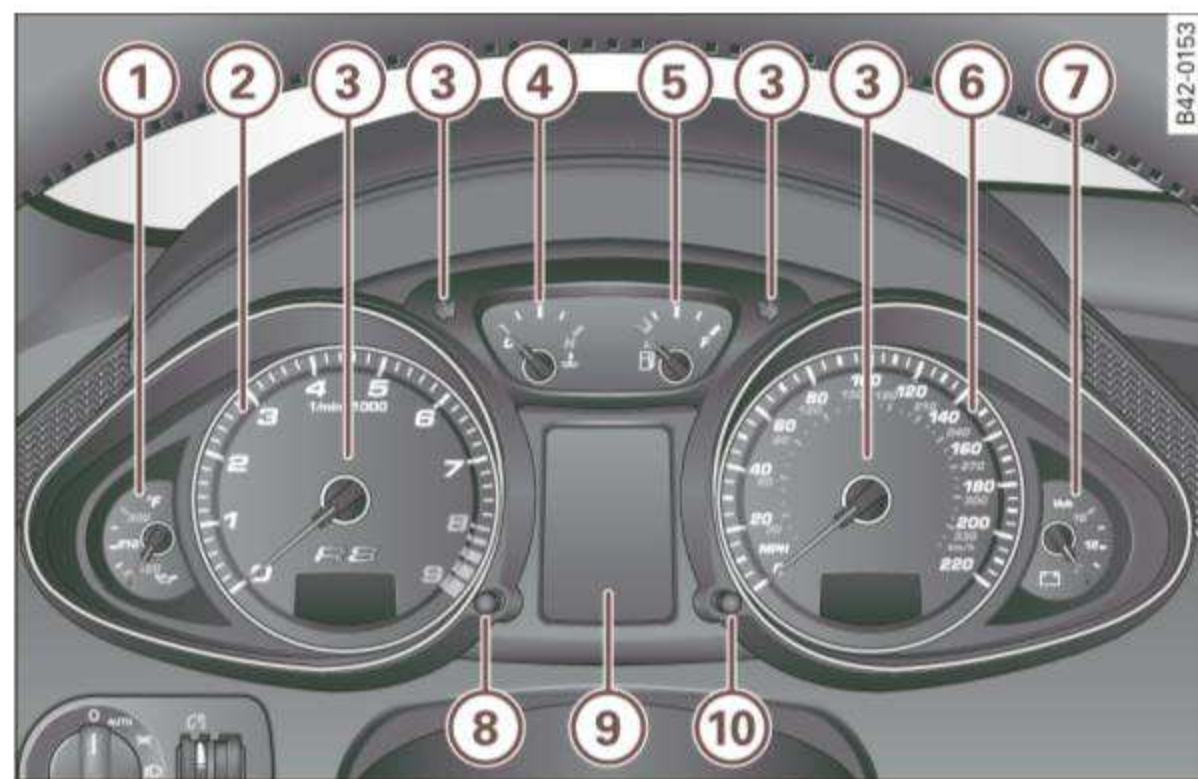

Fig. 2 Overview of the instrument cluster
The engine oil temperature display ⇒ fig. 2 only operates with the ignition on. To prevent engine damage, please observe the following important points concerning the temperature ranges.
The tachometer needle \Rightarrow page 12, fig. 2 (2) should not move into the red range. If it does, then only for a very short period of time. You could damage your engine by driving at high RPM. ■
With the ignition off, pushing or pulling the Set/Check button \Rightarrow page 12, fig. 2 (8) can turn on the display field lighting for a few seconds. ■
The engine coolant gauge \Rightarrow page 12, fig. 2 (4) only works when the ignition is on. To prevent damage to your engine, please note the following important points. ►
With the ignition off, pushing of the Set/Check button ⇒ page 12, fig. 2 ⑧ can turn on the display field lighting for a few seconds.